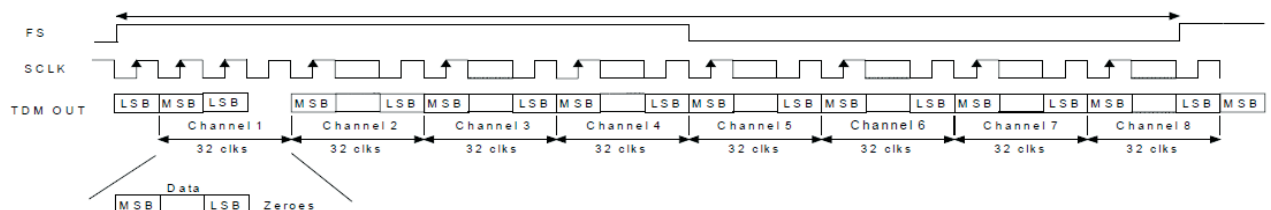

Figure 11. TDM Format
In TDM Mode, all eight channels of audio data are serially clocked out during a single Frame Sync (FS) cycle, as shown in Figure 11. The rising edge of FS signifies the start of a new TDM frame cycle. Each channel slot occupies 32 SCLK cycles, with the data left justified and with MSB first. TDM output data should be latched on the rising edge of SCLK within time specified under “Serial Audio Interface - TDM Timing” section on page 11. The TDM data output port resides on the SDOUT1 pin. The TDM output pin is complimentary TDM data. All SDOUT pins will remain active during TDM Mode. Refer to Section 4.11 “Optimizing Performance in TDM Mode” on page 24 for critical system design information.